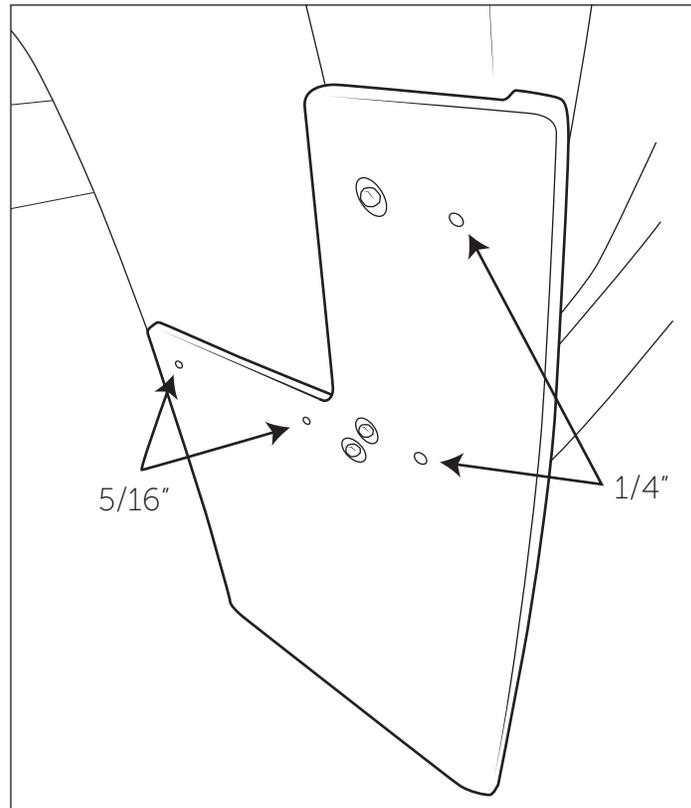

Figure 5
- Using the Splash Guard as a template, drill the two innermost holes to 5/16" and outer two holes to 1/4" into the fender flare (fig. 5). NOTE: Be sure Splash Guard is in the proper position and parallel to the ground.